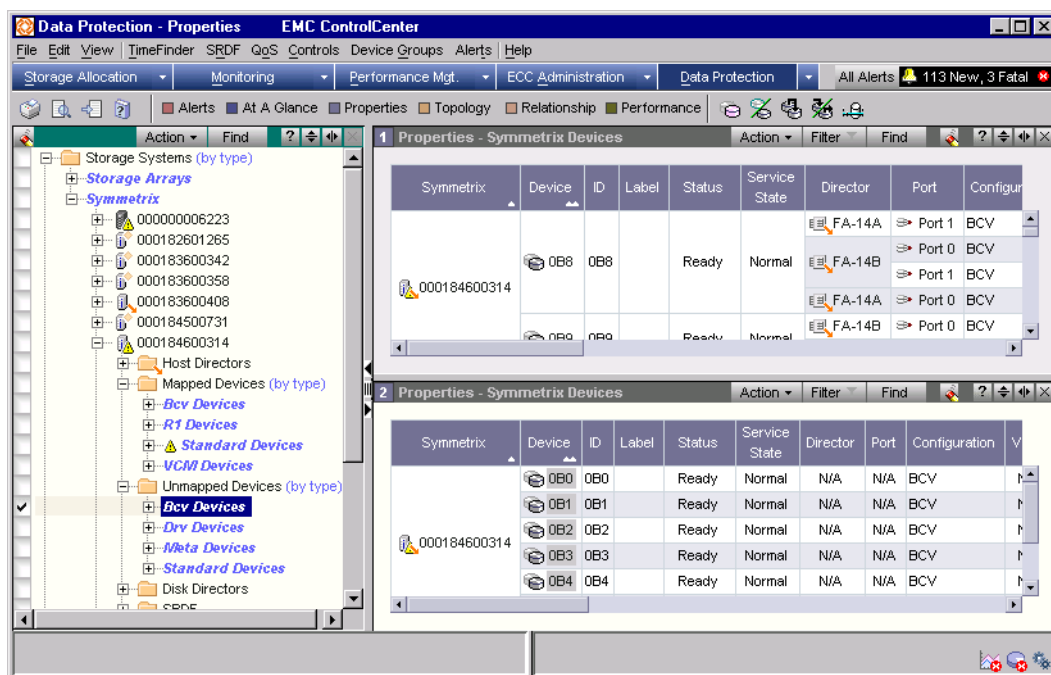

Figure 11-11 Split View Showing Device Properties and TimeFinder
1. Split the view in the right-hand panel and open a TimeFinder view (select **Data Protection**, **TimeFinder** from the toolbar). You now have a device properties view in the top panel and a TimeFinder view in the lower panel (Figure 11-11).